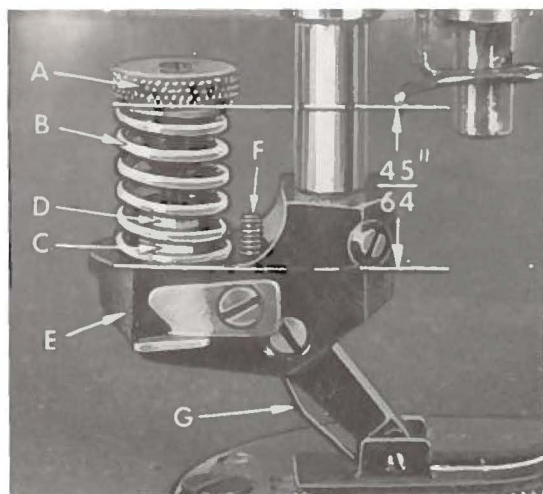

Fig. 18C
Remove nut (A, Fig. 18C) and presser spring (B) of the feeding presser foot and adjust stop nut (C) so that when the presser foot is pushed forward, the rear of the needle slot will not touch the needle. Lock in position with locknut (D). Replace presser spring (B) and adjusting nut (A) on presser foot and adjust to $45/64$ inch between the top of the yoke (E) and top of spring (B) with the feed dog down. Adjust stop screw (F) in feeding foot so that presser foot bottom slides rearward a maximum of $1/64$ inch on throat plate when foot is lifted with feed dog down.
Lift feeding presser foot and check to see if bottom is parallel to throat plate. Should adjustment be necessary, remove the presser foot from the machine and loosen screw in bottom of presser foot shank to reposition leveling spring (G, Fig. 18C) as required to obtain proper position. Retighten screw.